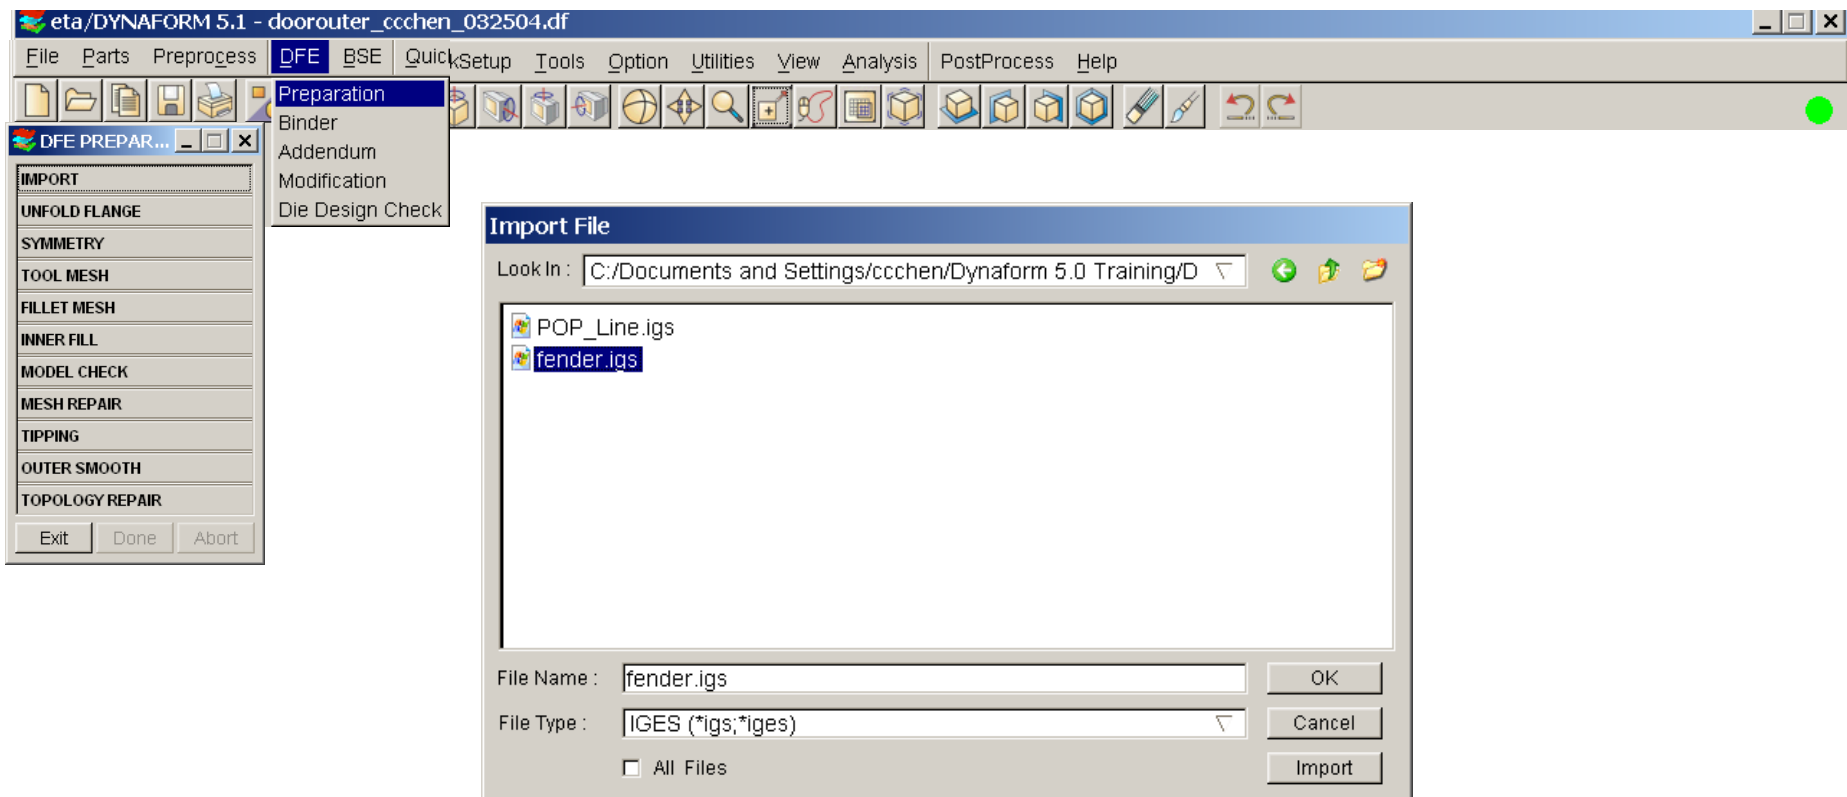

Figure 6.2
- a) Click on *DFE* (See Figure 6.2)